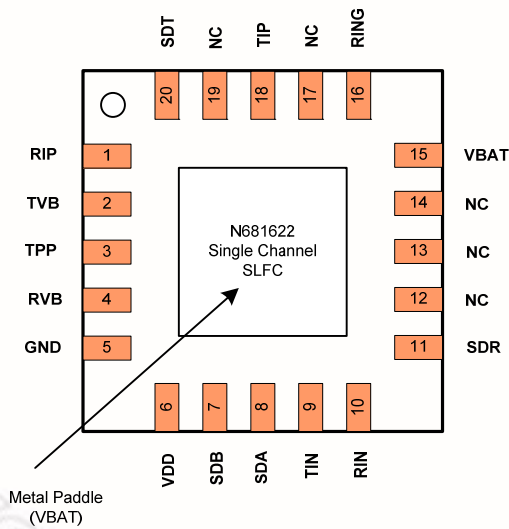

Figure 2: N681622 Subscriber Line Feed Circuit (SLFC) Pin Configuration
*Note: Heat sink metal paddle under device should be connected to VBAT plane for heat dissipation as it is internally connected to Vbat as shown in Figure 2.